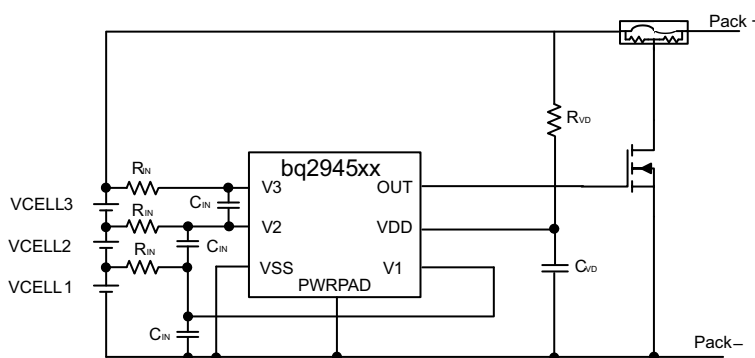

Figure 9. Application Configuration Schematic
Changes to the ranges stated in Table 1 will impact the accuracy of the cell measurements. Figure 9 shows each external component.
3. Follow the application configuration schematic (see Figure 9) to connect the device.